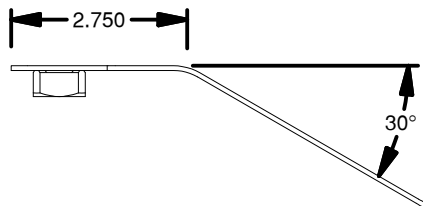

Figure D4: Bent nut guide.
5. **Prepare the nut guide.** A 1/2" x 2" hex head bolt and nut guide will need to be utilized to install the passenger side forward bolt. Prepare the nut guide by putting a 30° bend in the handle about 2-3/4" from the top, see Figure D4.